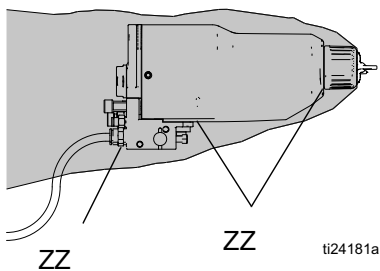

FIG. 17. Check for Fluid Leakage
During operation, periodically check all openings of the gun shroud (ZZ) for the presence of fluid. See FIGURE 17. Fluid in these areas indicates leakage into the shroud, which could be caused by leaks at the fluid tube connections or fluid packing leakage.